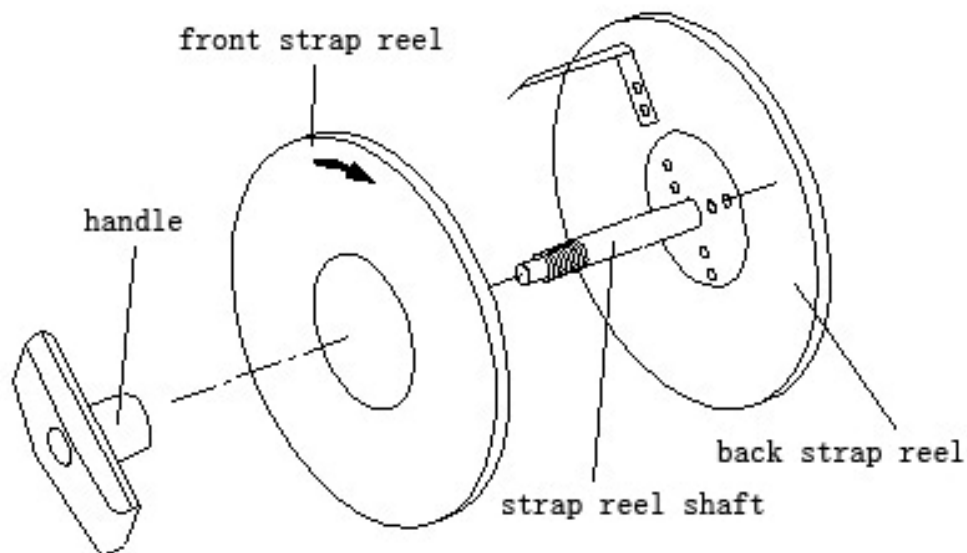

Fig.3 Strap Coil Installation
2. INSTALLATION OF THE STRAP COIL (as shown in Fig. 3)